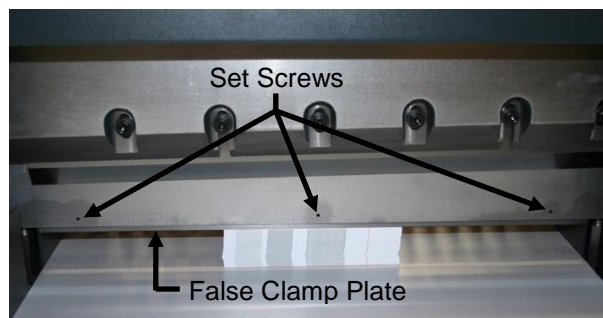

Figure 18
3. While holding the false clamp plate tight against the clamp, tighten the right most set screw located in the front face of the clamp (Figure 18). If the center set screw is accessible below the knife, tighten that screw as well.
5. Continue to hold the foot pedal down then tighten the remaining setscrews located in the lower front face of the clamp (Figure 18).